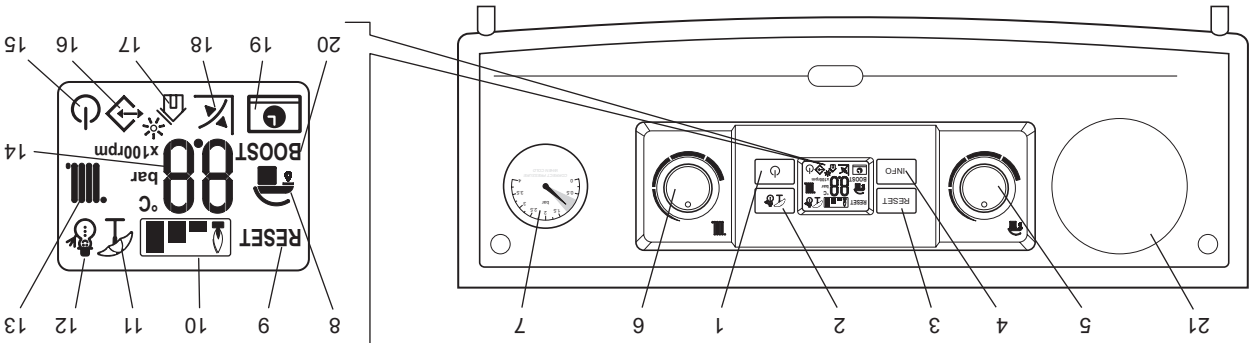

Fig. 1
**On** - In this mode the boiler can be switched between 'Summer' or 'Winter' settings by pressing the Summer/Winter button (item 2 in Fig. 1).
To fill or pressurise the system open one tap fully by turning it 90° anticlockwise in line with the tap housing. The second tap should be opened a quarter of a turn and the water will start to refill the system (water should be heard filling the system). You should see the pressure gauge (item 7 in Fig. 1) rise back up into the green area on the pressure gauge between 1 bar and 1.5 bar pressure.
The temperature of the hot water to the taps can be adjusted by turning the hot water selector switch (item 5 in Fig. 1) to the required value shown on the display in °C.
The temperature of the central heating water can be adjusted by turning the central heating selector switch (item 6 in Fig. 1). When the heating is on the temperature of the water leaving the boiler to the radiators will be displayed.
If an external weather compensation probe is fitted, indicated by the symbol (item 18 in Fig. 1) in the display, it will automatically vary the temperature of the water in the radiators and on mild day the radiators will not feel as hot as on a cold day, this is normal and not a fault with the boiler or heating circuit. The room temperature will still be maintained as set by the room thermostat.
When an external weather probe is fitted, the central heating selector switch (item 6 in Fig. 1) will no longer adjust the flow temperature in °C, instead the display will show a scale of 1 to 9. Each number corresponds to a line on the graph in Fig 2 i.e. line 6 will give a flow temperature of 60°C when the external temperature is 10°C.
By pressing the On-Off button (item 1 in Fig. 1) the Standby or On mode can be selected, or press and hold the On-Off button for eight seconds to turn the boiler off.
**Note:** It is important to allow this purging operation to function when the boiler has been initially installed to remove all the air installer then this operation can be terminated by pressing the reset button (item 3 in Fig. 1).
Make sure the heating system is filled and the needle on the pressure gauge (item 7 in Fig. 1) is in the green band. If